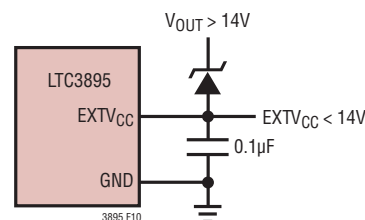

Figure 10. Using a Zener Diode Between  $V_{OUT}$  and  $EXTV_{CC}$
4.  $EXTV_{CC}$  connected to the regulator output through an external zener diode. If the output voltage is greater than 14V, a zener diode can be used to drop the necessary voltage between  $V_{OUT}$  and  $EXTV_{CC}$  such that  $EXTV_{CC}$  remains below 14V (Figure 10). In this configuration, a bypass capacitor on  $EXTV_{CC}$  of at least 0.1 $\mu\text{F}$  is recommended. An optional resistor between  $EXTV_{CC}$  and GND can be inserted to ensure adequate bias current through the zener diode.